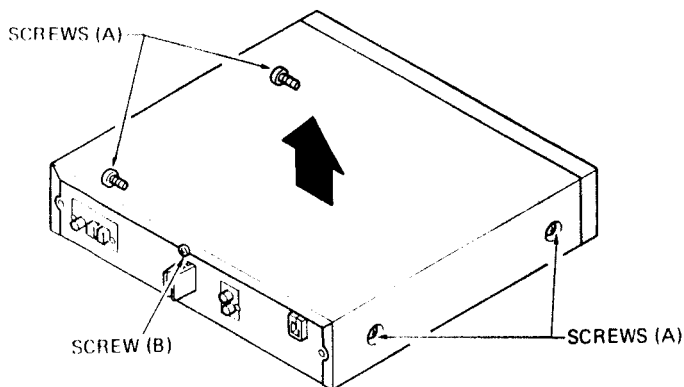

Fig. 1
- 1) Remove the 4 screws (A) from both sides of the top cover and 1 screw (B) on the rear as shown in Fig. 1.